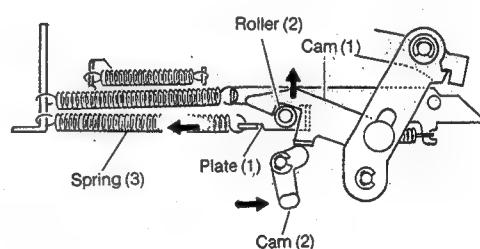

Fig. 11
1. Push Cam (2) to eject the cassette (see Fig. 11). Push Cam (2) in the arrowed direction to push up Cam (1) and disengage it from Roller (2). Plate (1) is pulled leftward through Spring (3).